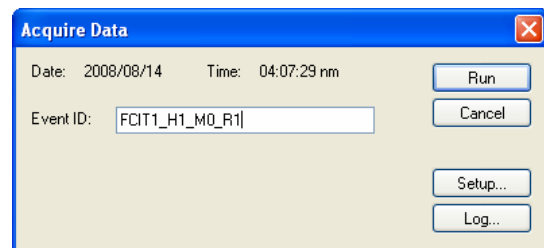

Figure 26: Acquire data window
1. In the MiniCTA software package on the toolbar, select Run/Run Default Setup. The “Acquire Data” window opens as shown in Figure 26.